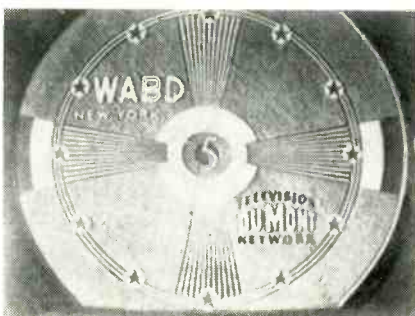
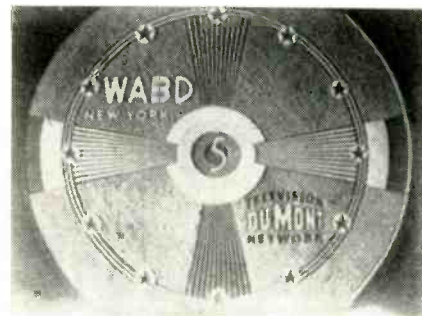

Fig. 4—Normal test pattern.
Fig. 5—High frequency peaking will cause vertical wedges in test pattern to appear darker than horizontal wedges. Compare test pattern with one in Fig. 4.
A. This distortion, shown in Fig. 5 (compare normal test pattern in Fig. 4), is the result of high-frequency peaking in some of the signal circuits; it can also result from impedance mismatch between lead-in and receiver, and between lead-in and antenna.